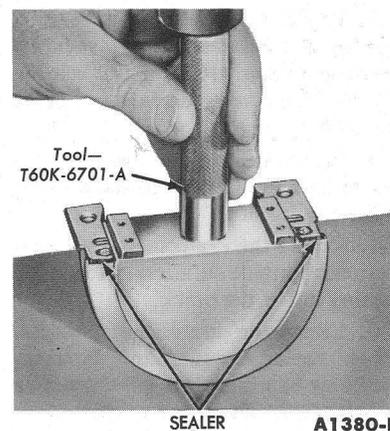

FIG. 58—Seal To Rear Bearing Cap Installation
3. Clean the rear journal oil seal groove. Install a new rear journal oil seal in the rear main bearing cap (Fig. 58). After installation, cut the ends of the seals flush.
4. Apply a thin coating of oil resistant sealer to the rear main bearing cap at the rear of the top mating surface (Fig. 58). **Do not apply sealer to the area forward of the oil slinger groove.** Install the rear main bearing cap. Torque the cap bolts to 65-75 ft-lbs.